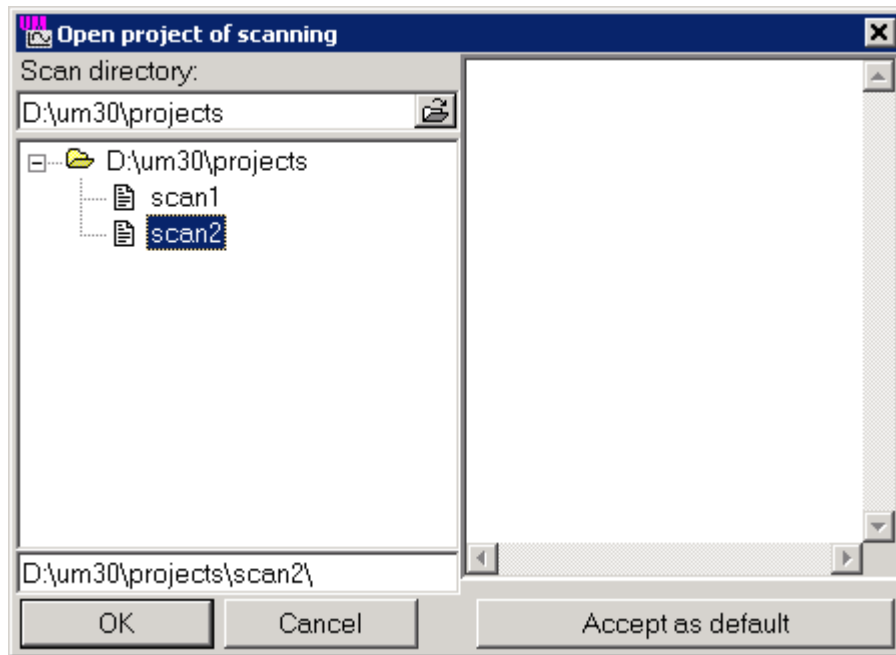

Figure 4.1. Open dialog
2. To load the **scan2** scanning project from the **Advanced analysis** menu select the **Scanning: open project**. Select the **scan2** project in the open dialog and click **OK**, see Fig. 4.1. The window of the scanning project appears.